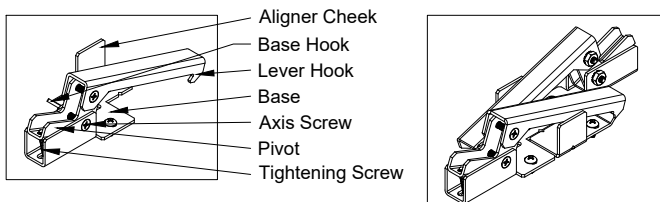
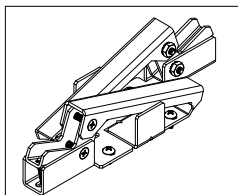
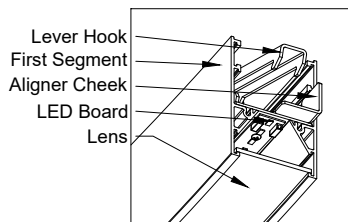
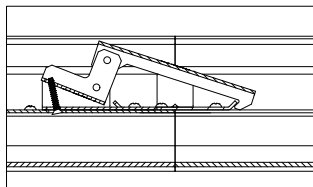

Fig. 10. Joiner Bracket
Fig. 11. Joined Brackets
Fig. 12. Joiner Details (fixtures with Ø>12')
Fig. 14. Joiner engagement.
3. Each segment end has joiner bracket (Fig. 10). Brackets installed the way they located side by side in opposite directions when two adjacent segments joined together (see Fig. 11). Each bracket has base hook and lever hook (Fig. 10). Lever hook of one segment's bracket has to engage with base hook of another segment's bracket (Fig. 11).
4. Install the second fixture segment as described in step 2 above. Both segments come close. Level the second segment to the first one. Join LED connectors if fixture has run through harness (Fig. 13). Skip this step if each segment has separate LED feed. Move segments together the way that aligner cheek of one bracket is aimed to housing pocket of another segment (Fig. 12).
5. Move segments together till clicks (both hooks engaged). See Fig 14 for details. Adjust segment's level if needed. Find a hole in housing reflector (Fig. 12) to reach joiner bracket tightening screw (Fig. 10) with long Phillips screwdriver. Tighten both bracket's screws alternately (Fig. 14). Screw will turn the pivot and pull lever hook inside the fixture. Tighten both screws alternately from both sides to reach complete engagement and alignment of both segment. Make sure both segments aligned completely without any visible gap in between housings.